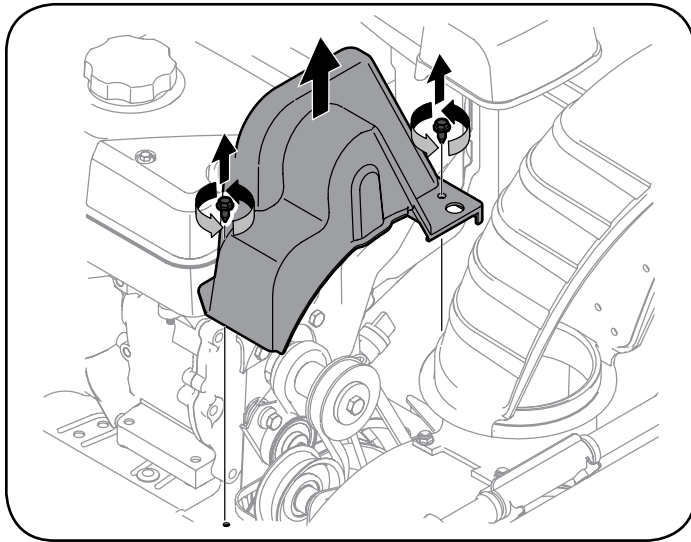

Figure 54
2. Remove the plastic belt cover on the front of the engine by removing the two self-tapping screws. See Figure 54.